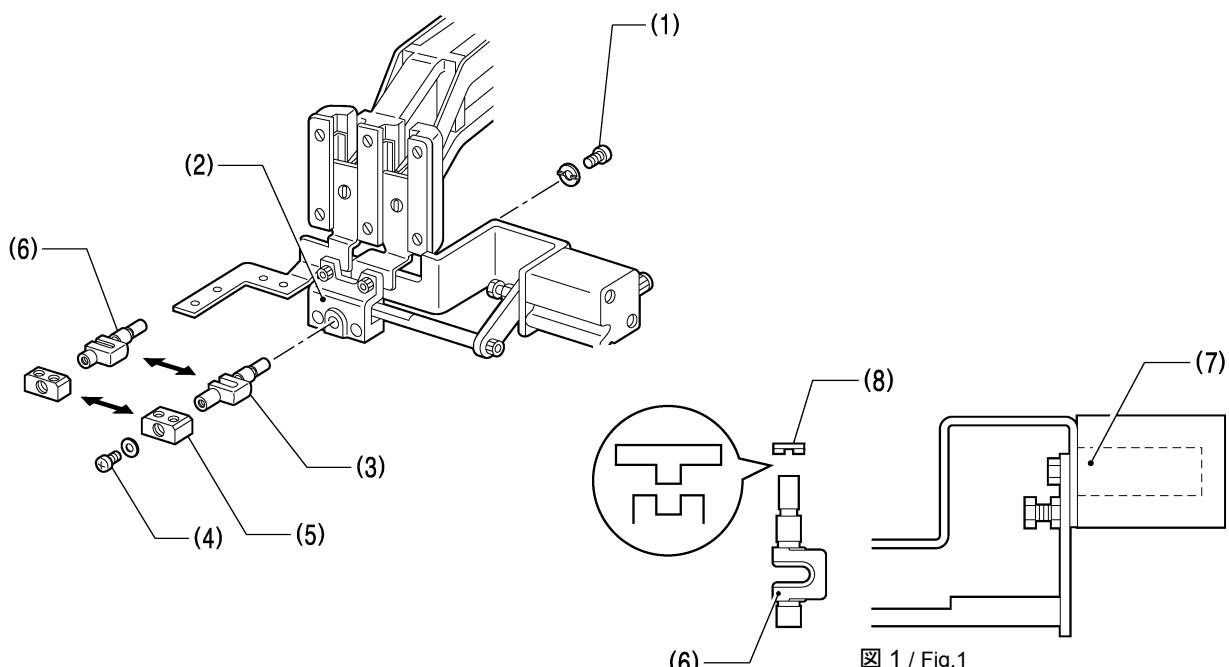

図 1 / Fig.1
3. 押えクランク(6)を押えクランクホルダ(2)に差し込み、反転シリンダのピストンロッド(7)が引き込まれた状態 (図 1) のときに押えクランク(6)を図の向きにして、座金(8)の溝を合わせて締ねじ(1)で取り付けます。
1. Remove the screw (1), and remove the work clamp crank (3) from the work clamp crank holder (2).
2. Remove the screw (4) to replace the work clamp plate holder (5) with the optional one, and install it with the screw (4).
3. Insert the work clamp crank (6) into the work clamp crank holder (2). Then while pulling out the reversal cylinder piston rod (7) (Fig. 1), set the work clamp crank (6) so that it faces as shown in the illustration, align its groove with the washer (8), and then tighten the screw (1) to secure it.